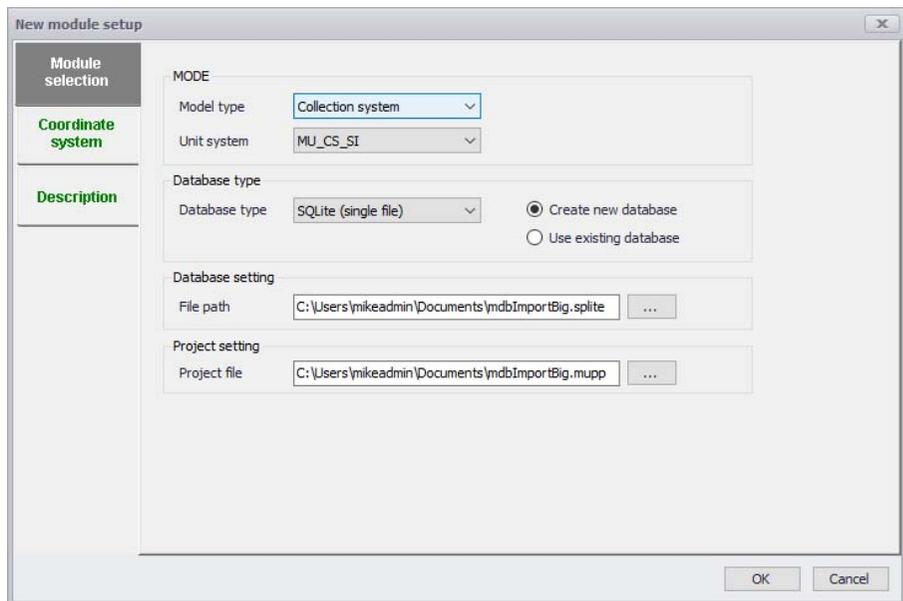

Figure 2.53 Creating a new MU+ project
- On the dialog that comes up, see Figure 2.53 choose Model Type to be either Collection System or Water Distribution